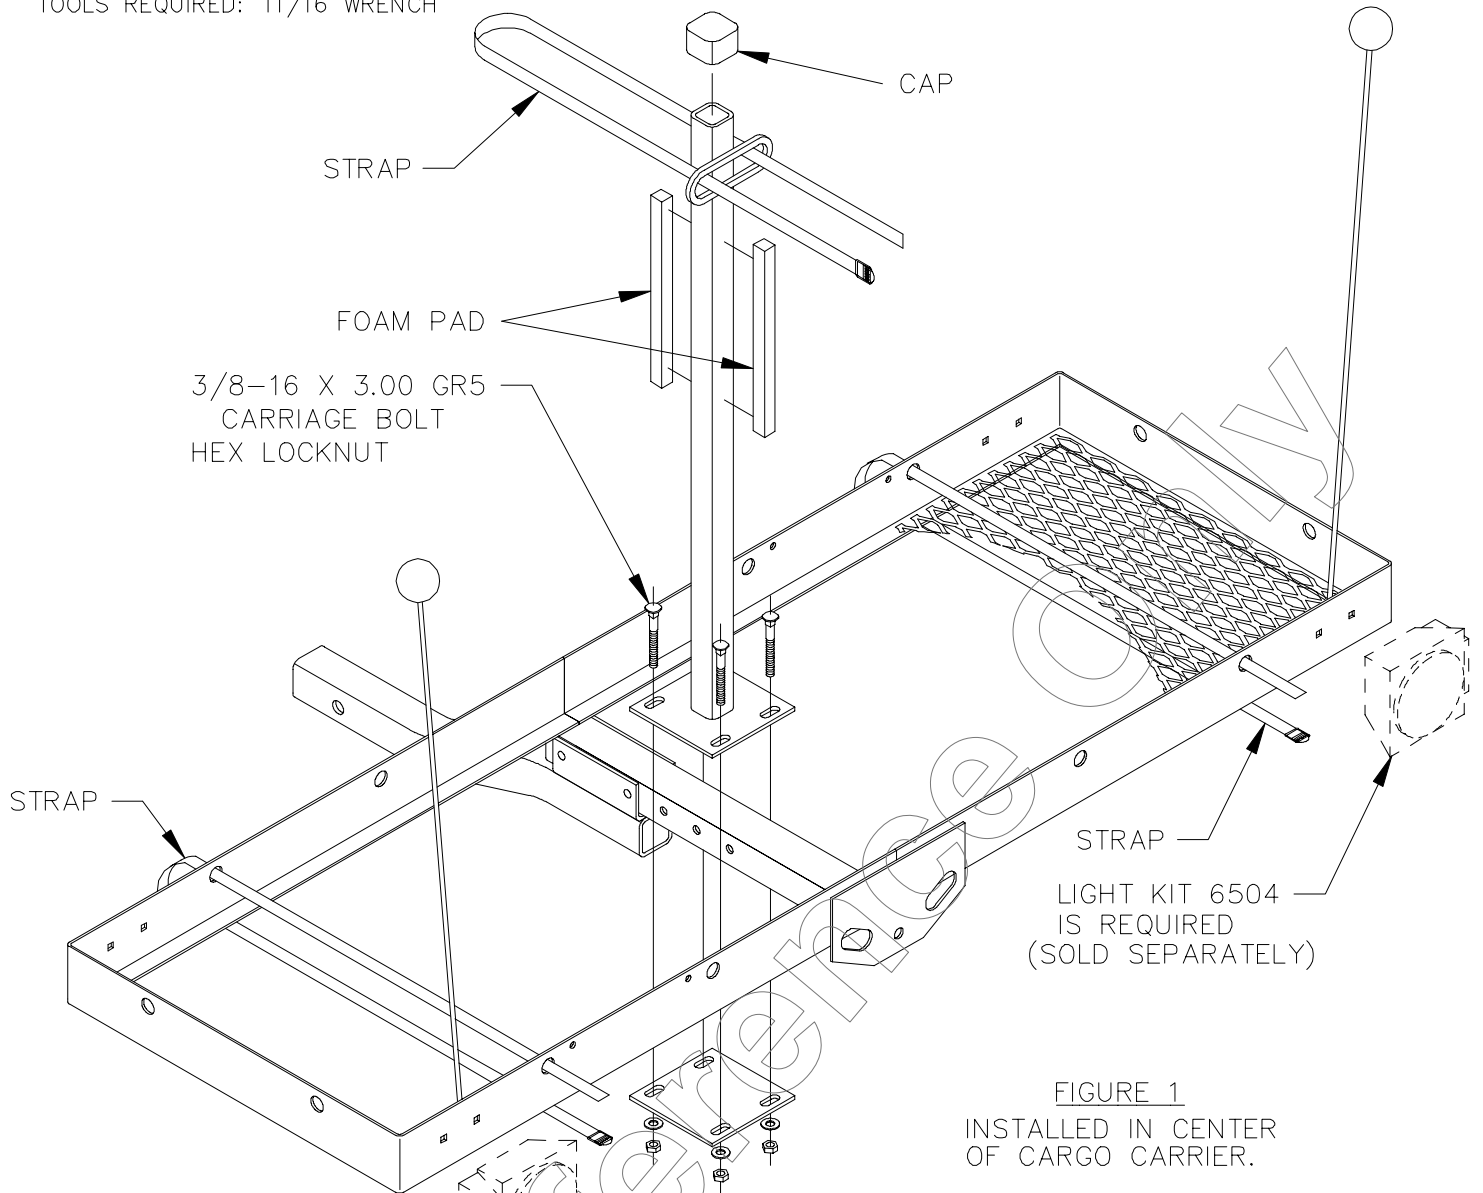

FIGURE 1
1. PLACE BIKE CARRIER ON CARGO CARRIER AS SHOWN IN FIGURES 1 & 2.
2. INSTALL FASTENERS AS SHOWN IN FIGURE 1 AND TIGHTEN EVENLY, DO NOT OVER TIGHTEN.
3. INSTALL CAP AND FOAM PADS AS SHOWN IN FIGURE 1.
4. INSERT STRAPS THRU BICYCLE SPOKES AND CARGO CARRIER AS SHOWN IN FIGURES 1 & 2.
5. FASTEN STRAP AROUND BIKES AND BIKE CARRIER AS SHOWN IN FIGURES 1 & 2.